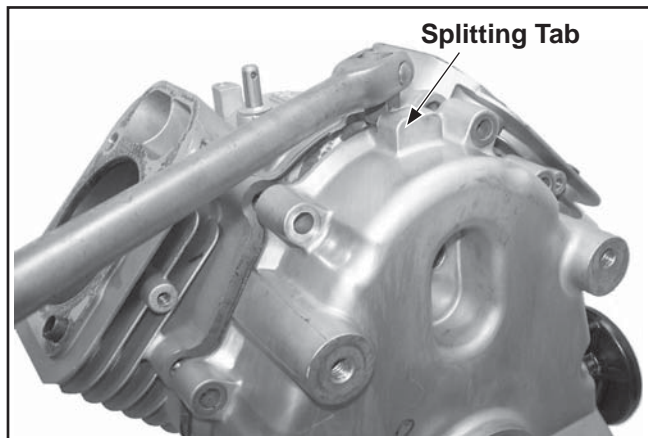

Figure 8-44. Removing Oil Pan.
2. Locate the splitting tab cast into the perimeter of the oil pan. Insert the drive end of a 1/2" breaker bar between the splitting tab and the crankcase and turn it to break the RTV seal. See Figure 8-44. Do not pry on the sealing surfaces as this can cause leaks.